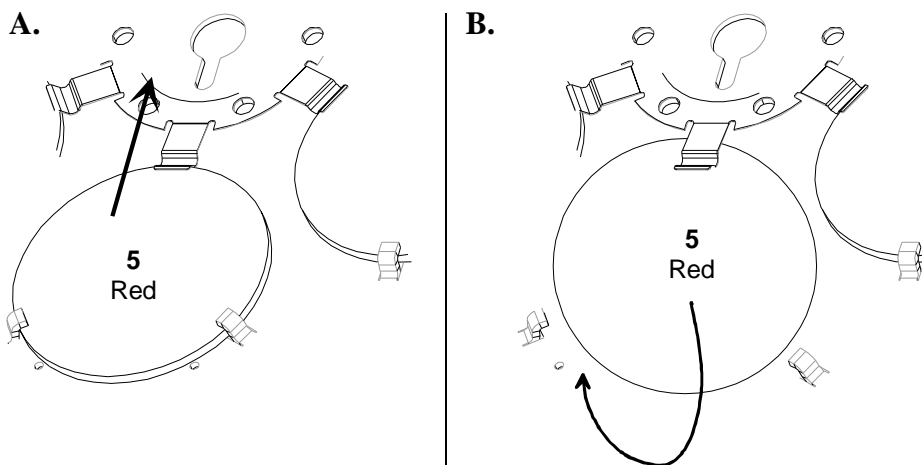

Figure B.6. Removing the Dichroic Glass
11. Gently push the glass towards the spindle in the center of the color wheel (A), lift the edge away from the spindle (B), and remove the glass. Refer to Figure B.6.